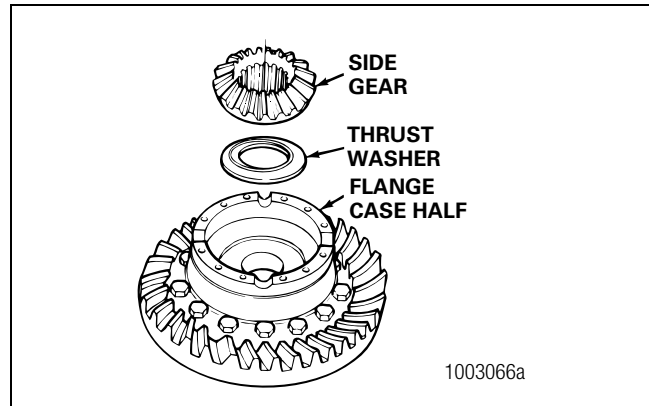

Figure 5.42
11. Install one thrust washer and side gear into the flange case half. Figure 5.42.